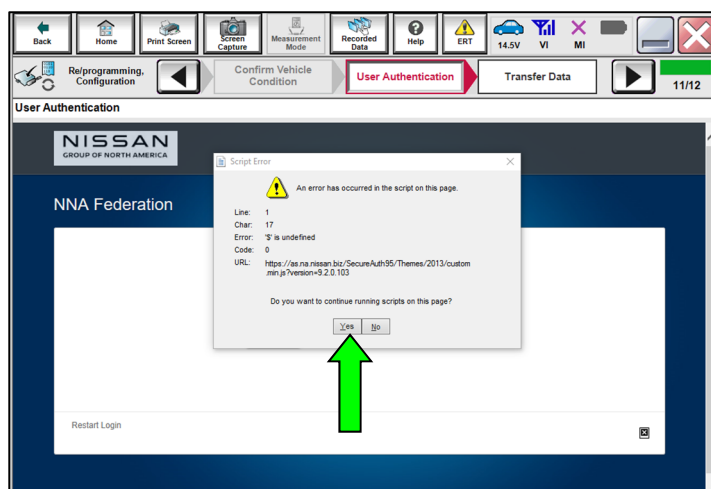

Figure 2
3. Turn the EV system ON (Not Ready) mode, by pressing the power switch two (2) times WITHOUT depressing the brake pedal.
6. If the Script Error shown in Figure 2 is present, select **Yes**.